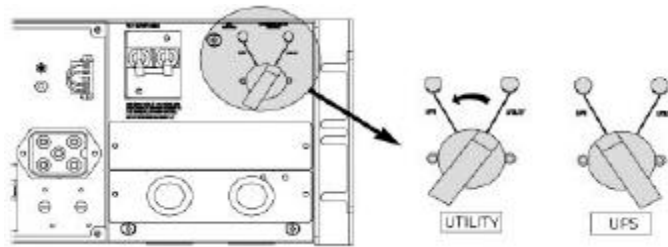

FIG 57 – 6KVA MAINTENANCE BYPASS SWITCH TO UPS
6. For the 6kVA switch the Maintenance Bypass Switch to UPS position (FIG 57).